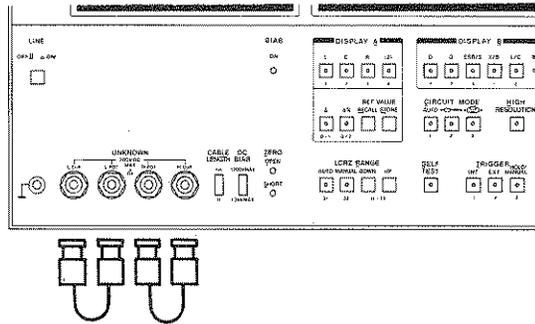

Figure 4-3. Self Operating Test Setup.
2. Connect L_{CUR} and L_{POT} terminals with a BNC to BNC cable as shown in Figure 4-3. Similarly Connect H_{CUR} and H_{POT} terminals.